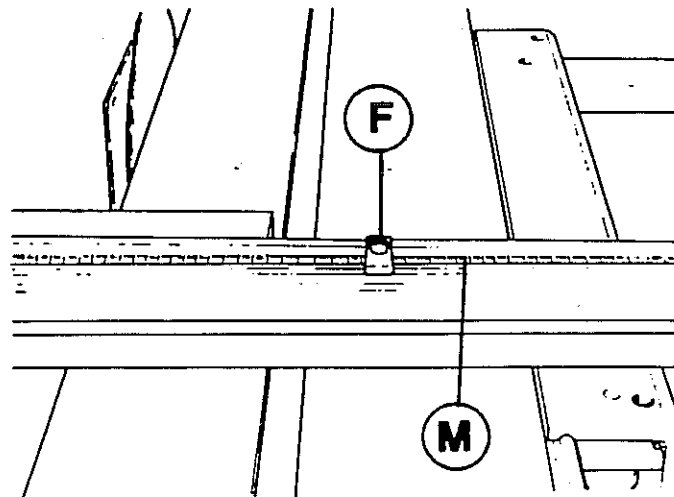

Fig.33
- Loosen millimetric rule (M fig.33) by turning knob (F)
- By means of knob (F fig.33) lock rule (M): the setting to zero has been carried out